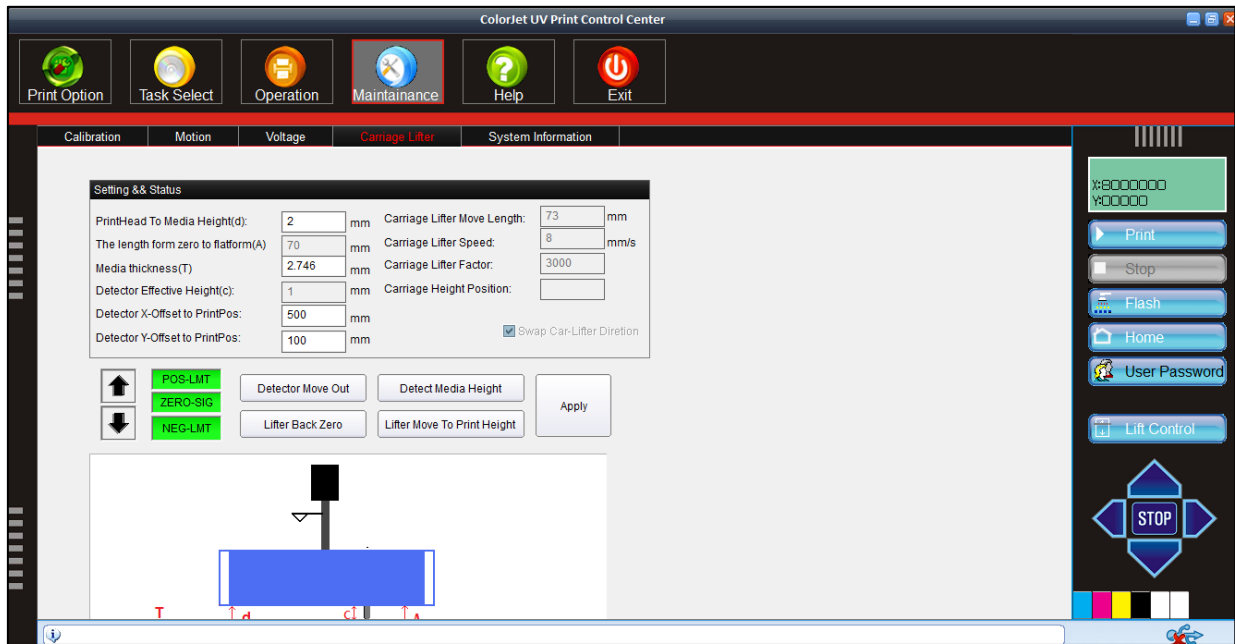

Fig 38: Displaying the Carriage Lifter
Step 6: After this, click on the **Apply** button to apply changes if any (refer to Fig 38).